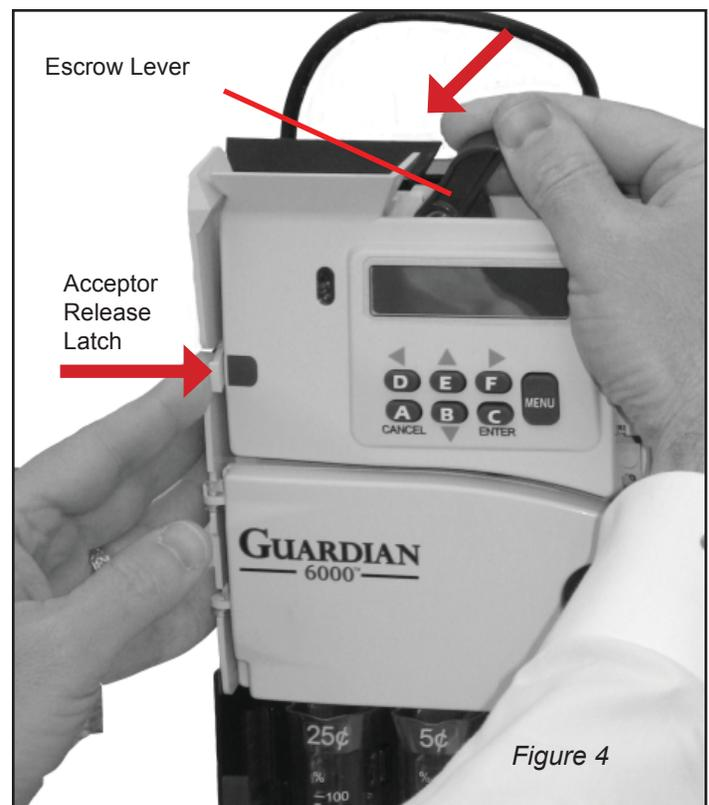

Figure 4
2. Remove the acceptor from the changer housing by pressing the acceptor latch (see Figure 4) on the front of the acceptor and pull the escrow lever towards you, away from changer housing.